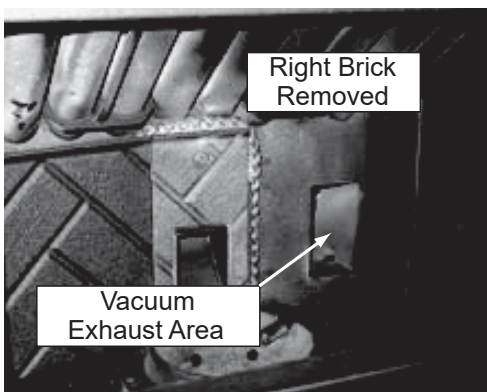
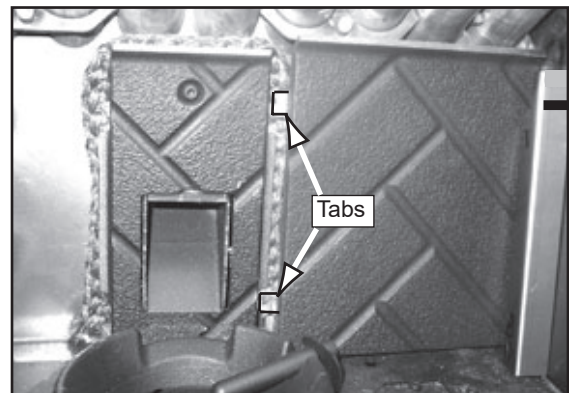

Figure 27.3
Figure 27.4
1. Place right brick in behind the right bracket, and then slide to the left so the tabs are behind the center brick (**Figure 27.4**).
5. Insert baffle into top front inside the firebox and pull forward. Then raise up the bottom end and insert baffle tab into slot on the top of the right bracket to lock into place (**Figure 27.3**). Place the left side hook at the bottom of the baffle over the top edge of brick for stability (**Figure 27.4**).